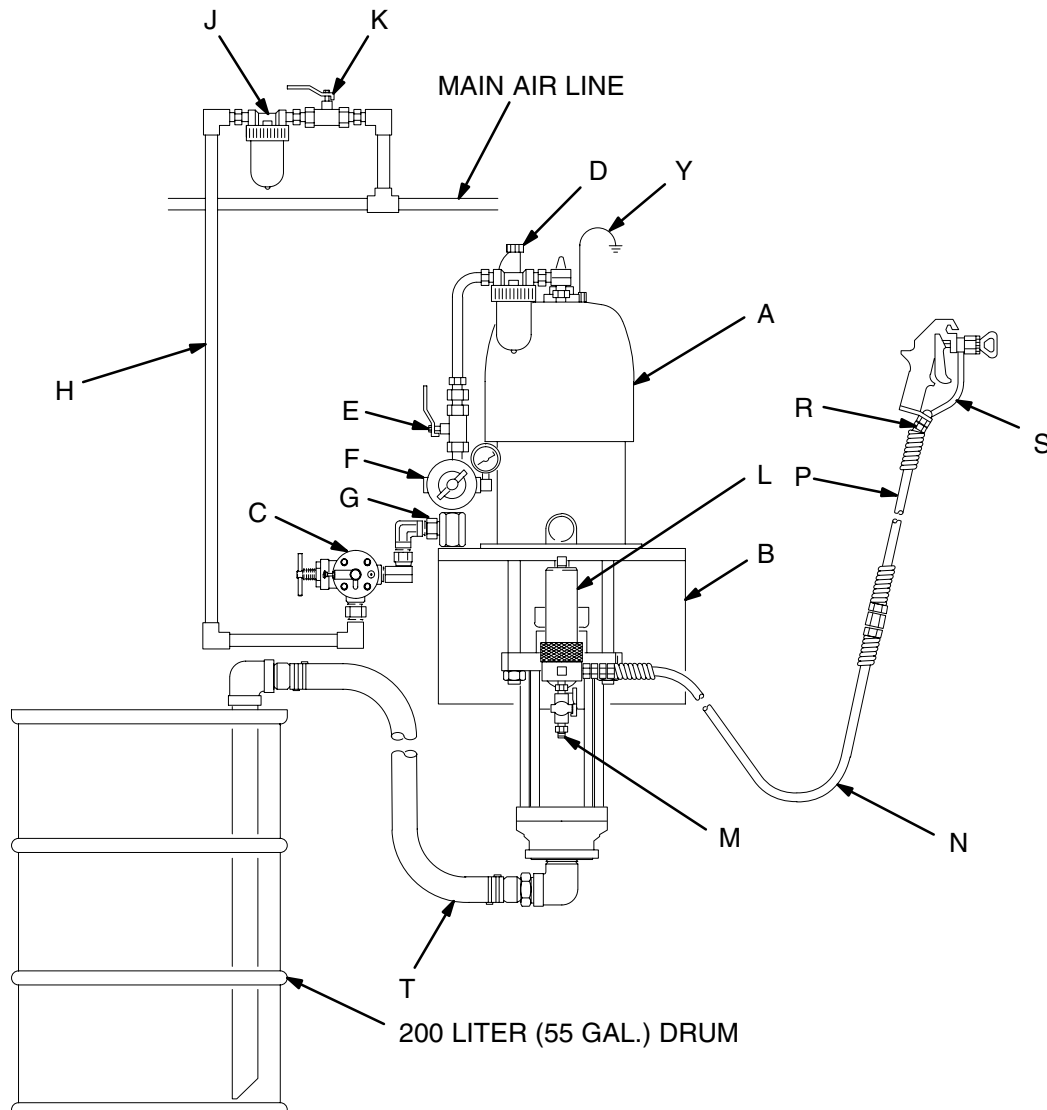

Fig. 3
Fig. 3 is only a guide for selecting and installing system components and accessories. Contact your Graco distributor for assistance in designing a system to suit your particular needs.
Mount the pump (A) to suit the type of installation planned. Fig. 3 illustrates a wall-mounted system. Pump dimensions and the mounting hole layout are shown on pages 44 and 45.
Install the following accessories in the order shown in Fig. 3, using adapters as necessary:
Install the following accessories in the positions shown in Fig. 3, using adapters as necessary:
- **A fluid filter (L)** with a 60 mesh (250 micron) stainless steel element, to filter particles from the fluid as it leaves the pump. It includes a **fluid drain valve (M)**, which is required in your system to relieve fluid pressure in the hose and gun (see the **WARNING** at left).
- **A gun or valve (S)** dispenses the fluid. The gun shown in Fig. 3 is an airless spray gun for light to medium viscosity fluids.
- **A gun swivel (R)** allows for easier gun movement.
- **A suction kit (T)** allows the pump to draw fluid from a 200 liter (55 gallon) drum.